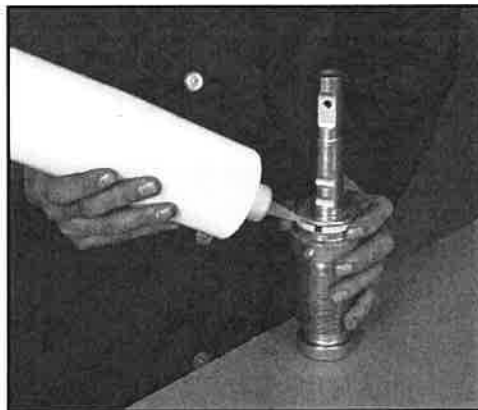

FIG. 30: GREASE THE SEAL
11. Apply grease to the cone seal (see Fig. 30).